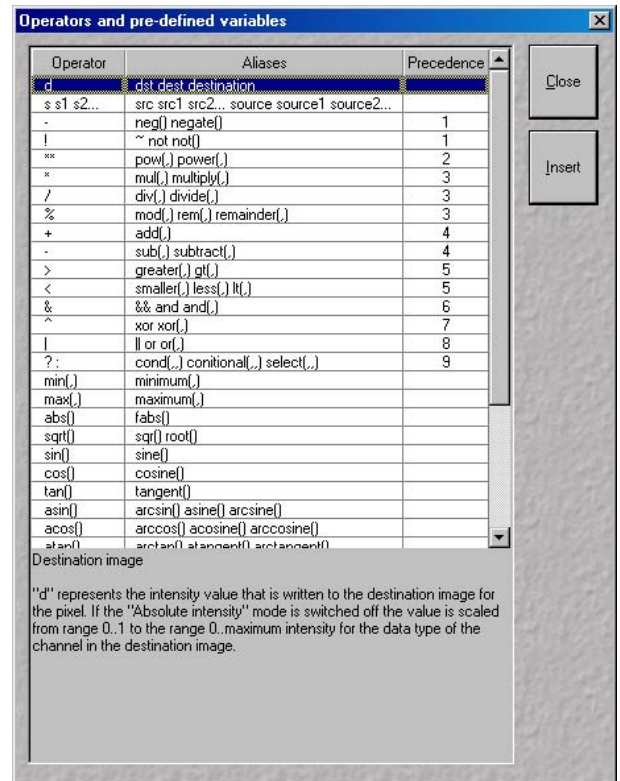

Fig. 4-115 Operators window
- Select the operator(s) from this list (Fig. 4-115) and click the **Insert** button.